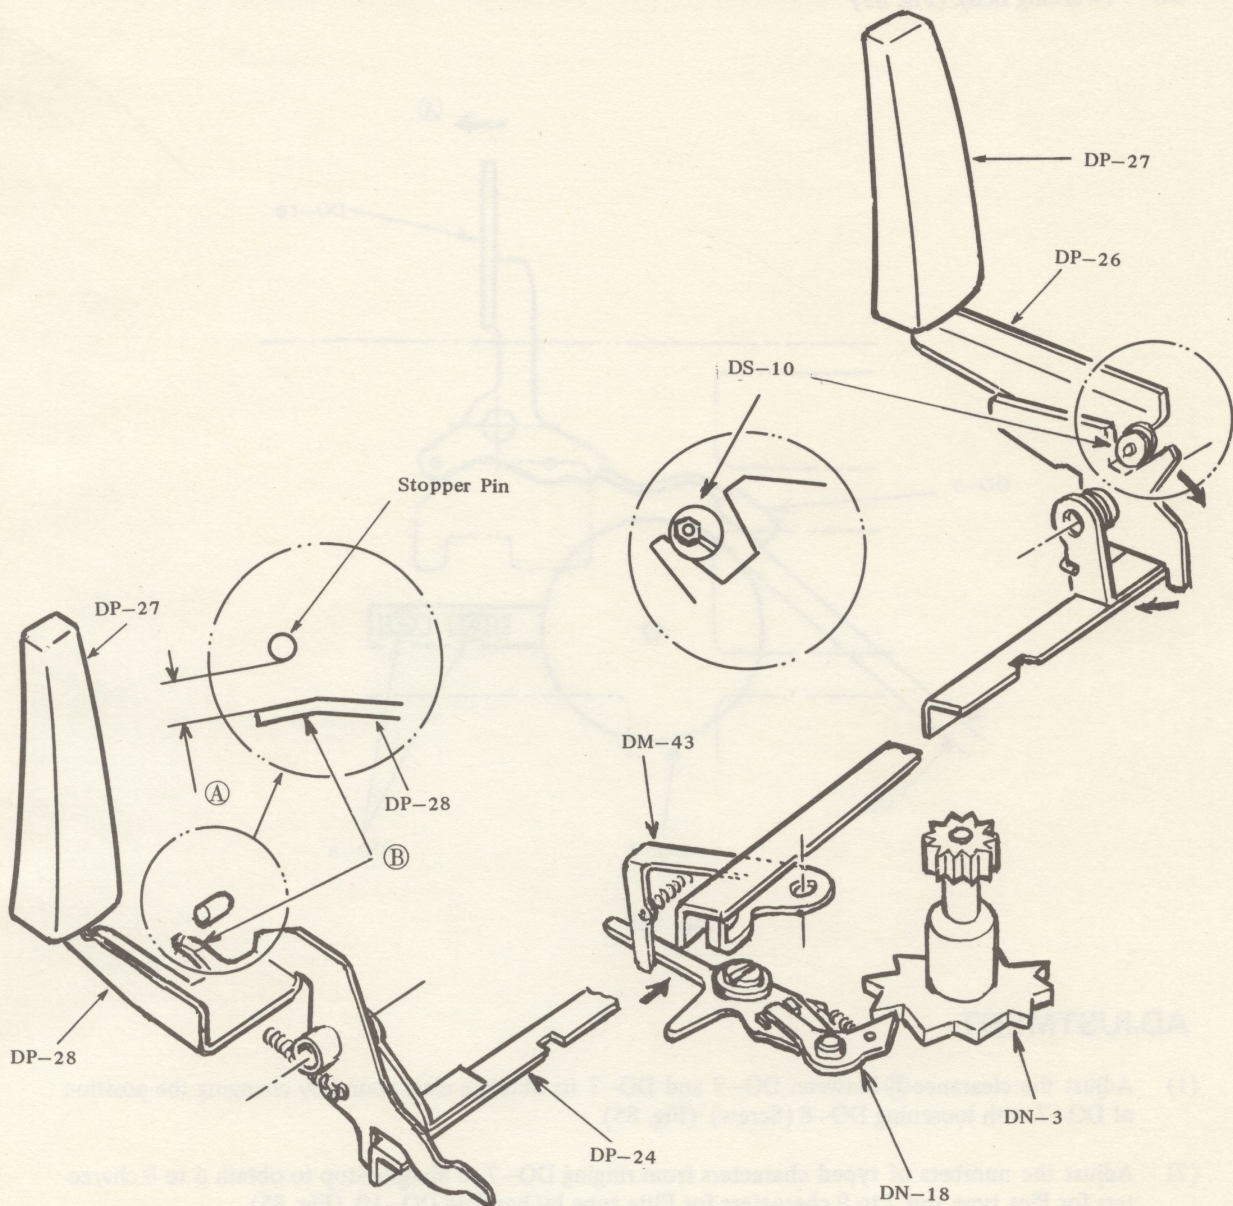

Fig. 84
When either right or left of DP-27 (Carriage Release Lever Knob) is pulled to this side, DP-24 (Carriage Release Plate) is moved, and DN-18 (Space Ratchet) is released from DN-3 (Space Ratchet Wheel) by the medium of DM-43 (Carriage Release Link), resulting Carriage becomes free. (Fig. 84)
- (1) Adjust the clearance ① between DP-28 (Carriage Release Lever: left) and Stopper Pin caulked on DS-31 (Carriage Side Plate Left Unit) from 4 to 5 mm by bending the ② portion of DP-28. (Fig. 84)
- (2) Adjust the operating range of DP-26 (Carriage Release Lever: right) with DS-10 (Eccentric Collar for DP-26). (Fig. 84)
Furthermore, make sure that the engaging depth between DN-18 and DN-3 is not changed at the left side or right side of Carriage when Carriage is not released. (Fig. 84)